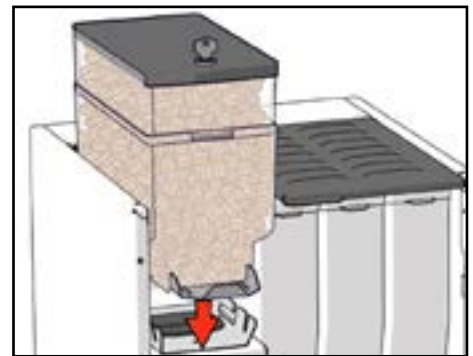

Figure 64.
7. Replace the canister (see Figure 64).